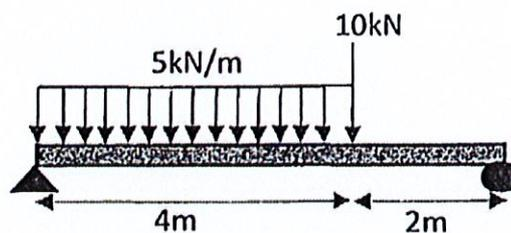

Figure 1 (c) / Rajah 1(c)
- CLO2 (c) A simply supported beam is loaded as shown in Figure 1(c) below. Calculate: